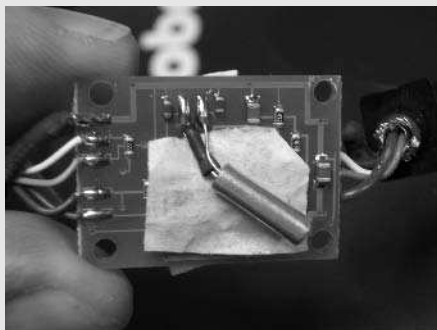

FIGURE 15-14: The wires on the left are the serial port; Black=GND, White=RXD, Orange=TXD
3. Turn the board over and see the serial cable wires (see Figure 15-14, left side). For the Cable 22 sync cable, the wires are: